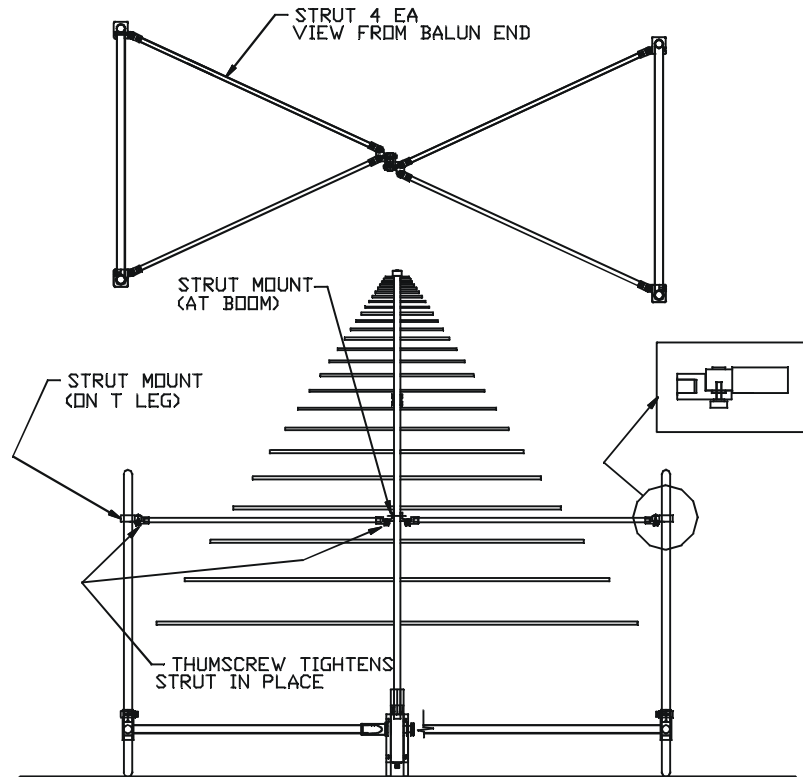

FIGURE 3 – Assembly Step 5
Step 5. The four diagonal struts should be installed. Loosen the thumbscrews at the mount on the T legs and at the boom mounts to install the strut ends. Place the pocket of the straight end facing the raised face of each mount and tighten the thumbscrew to lock in place (see Figure 3).